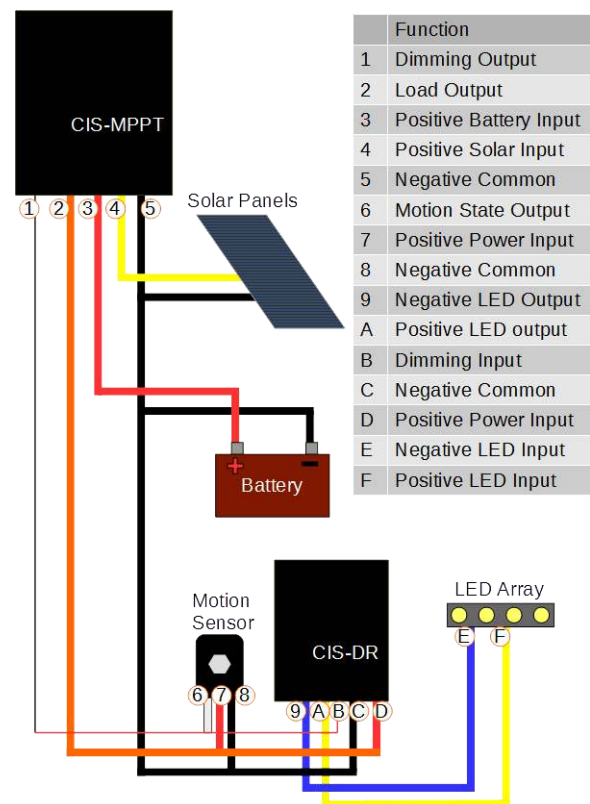

Figure 5- CIS-MPPT/CIS-DR with Sensor Switch SBO xx OEX in a 12V System
- a) **Configuration:** As shown in Figure 5 to the right, the CIS-DR and SBO xx OEX are powered by the load output of the CIS-MPPT. The dimming output of the CIS-N and SBO xx OEX are both connected directly to the dimming input of the CIS-DR